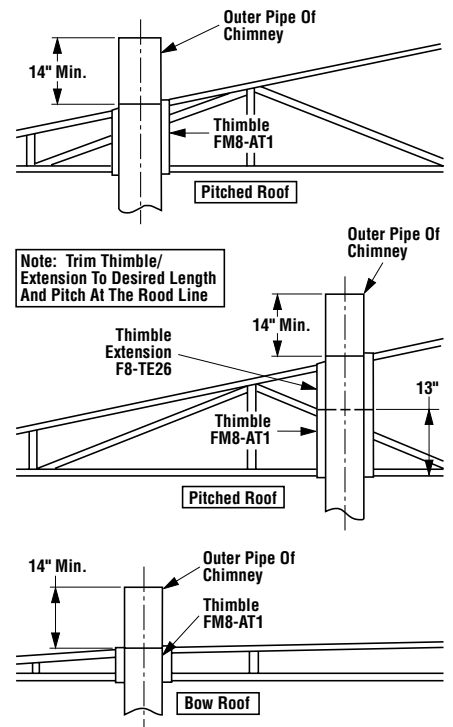

**Figure 18**
**Note:** If there is a room above ceiling level, firestop spacer must be installed on the bottom side of the ceiling. If an attic is above ceiling level, firestop thimble must be installed on the bottom side of ceiling joist (Figure 18).